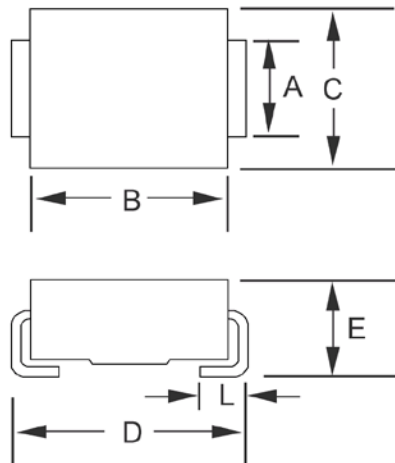

**FIGURE 4**
**NOTE 1:** Bidirectional capacitance is half that shown in figure 4 at zero volts.